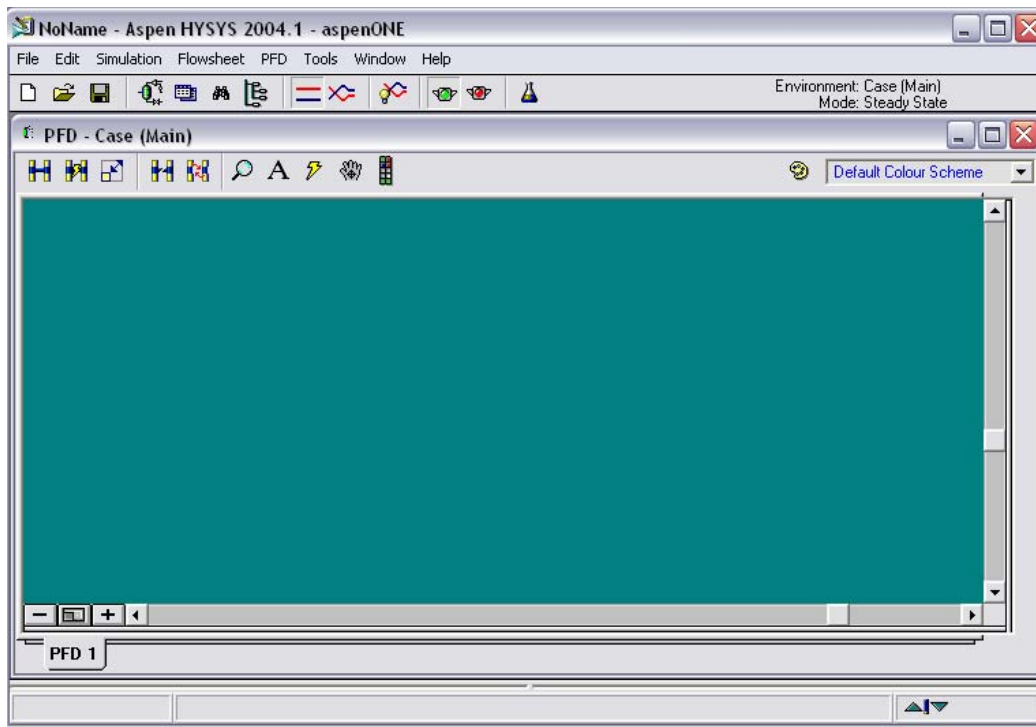

Figure 1-7
Once you have specified the components and fluid package, and entered the simulation environment, you will see the view as shown in Figure 1-7. Before proceeding, you should taking care of a few features of this simulation window:
1. HYSYS, unlike the majority of other simulation packages, solves the flowsheet after each addition/change to the flowsheet. This feature can be disabled by clicking the **Solver Holding** button (the **red** light button ) located in the toolbar (see Figure 1-7). If this button is selected, then HYSYS will **not** solve the simulation and it will **not** provide any results. In order to allow HYSYS to return results, the **Solver Active** button (the **green** light button ) must be selected.